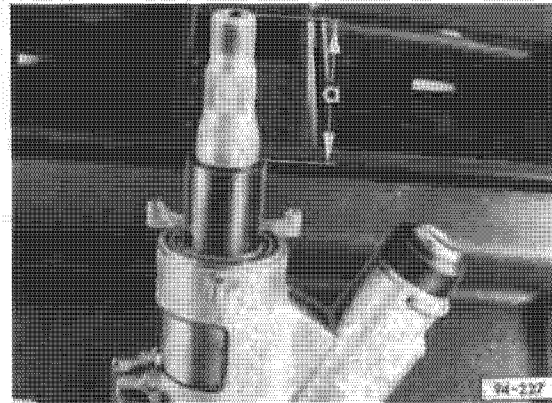

Fig. 5 Steering lock housing, installing
- adjust clearance (see Fig. 5)